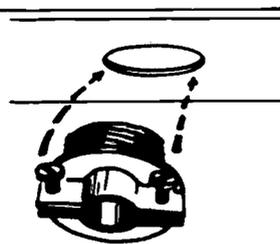

FIGURE 6
2. Place threads through KO opening (Figure 6)